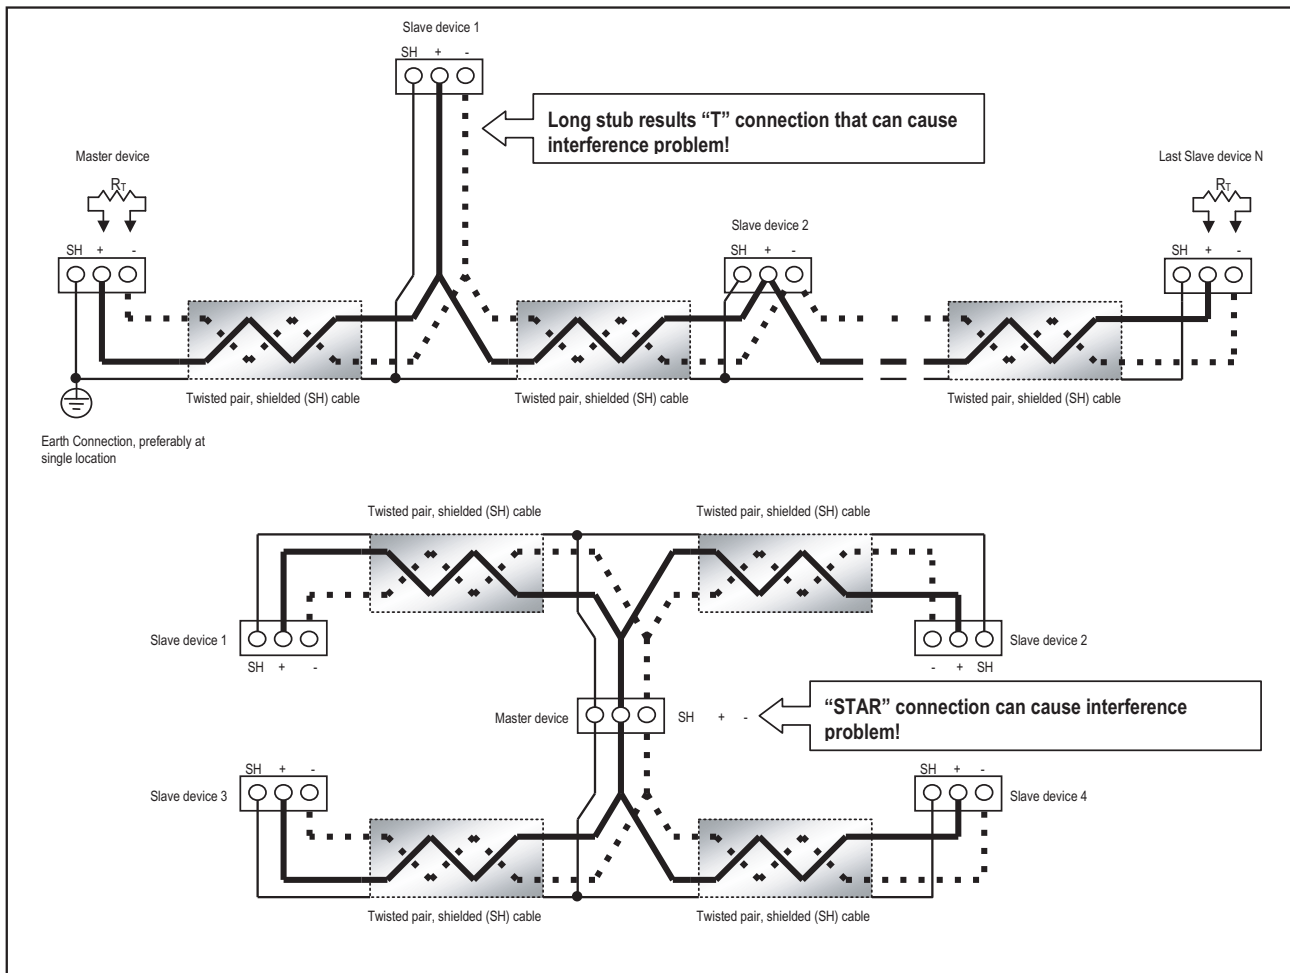

Figure 5-4: Incorrect "T" and "Star" Topologies
- Avoid both "Star" and "Tee" connections (see Figure 5-4).